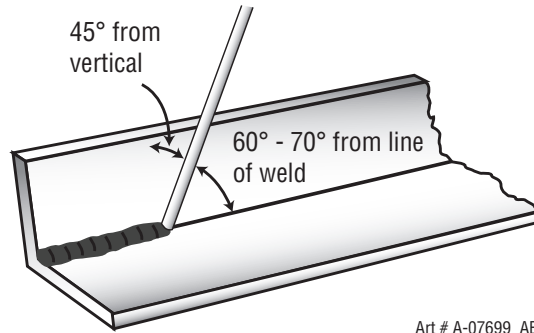

Figure 4-13: Electrode Position for HV Fillet Weld
A piece of angle iron is a suitable specimen with which to begin, or two lengths of strip steel may be tacked together at right angles. Using a 3.2mm Ferrocrafter 21 electrode at 100 amps, position angle iron with one leg horizontal and the other vertical. This is known as a horizontal-vertical (HV) fillet. Strike the arc and immediately bring the electrode to a position perpendicular to the line of the fillet and about 45° from the vertical. Some electrodes require to be sloped about 20° away from the perpendicular position to prevent slag from running ahead of the weld. Refer to Figure 4-13. Do not attempt to build up much larger than 6.4mm width with a 3.2mm electrode, otherwise the weld metal tends to sag towards the base,